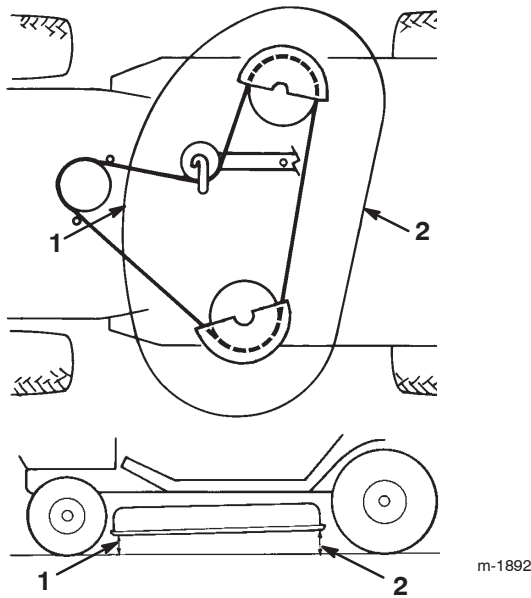

Figure 49
7. Check the front-to-rear slope by measuring between the bottom of the mower (front center and rear center) and the flat surface (Fig. 49). If the front is not within a range of 1/8 to 3/8 in. (4 to 11 mm) lower than the rear, an adjustment is required.
10. After adjusting both eye bolt locknuts evenly, check the front-to-rear slope again. Continue adjusting the eye bolts until the front blade tip is 0 to 3/8 in. (0-9 mm) lower than the rear blade tip (Fig. 49).